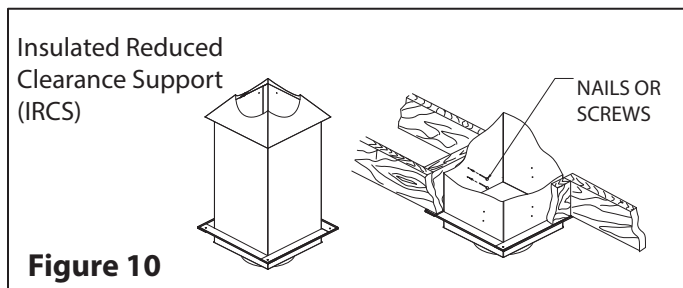

Figure 10
Step 3: From below, push the Insulated Reduced Clearance Support into the framed opening in the ceiling. Ensuring the support is level, attach the support to the framed opening using (12) - 3" spiral nails or #8 x 1 1/2" wood screws (see **Figure 10**). A minimum of 3 1/2" of the support must extend into the room. Screw the Finish Trim (included) to the ceiling.